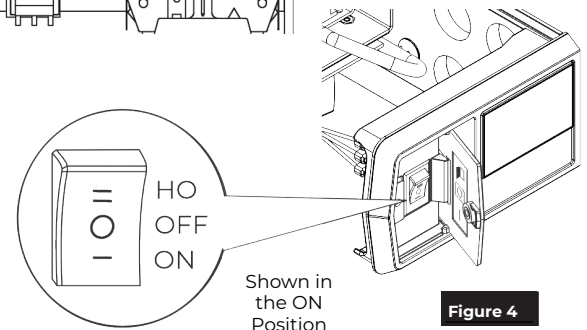

Figure 4
3. Confirm the ON/OFF/HO switch is in the ON position. (Figure 4)